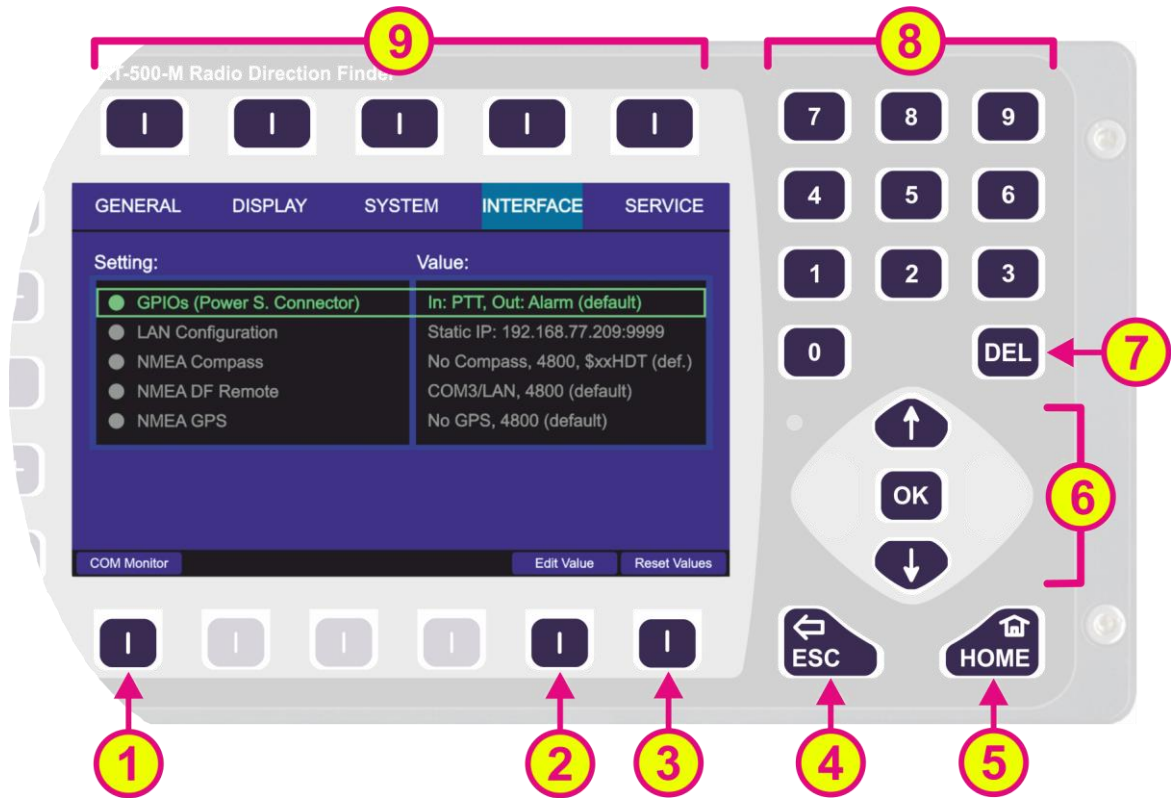
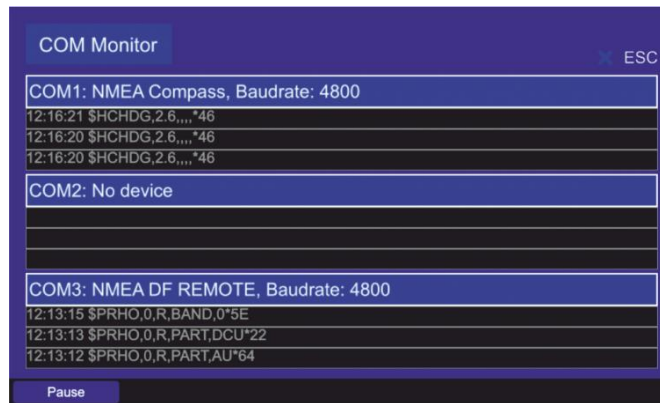

Fig. 139 Setup page. Interface settings
Fig. 140 COM monitoring dialog
- To open the dialog for COM monitoring press the “COM Monitor” hotkey (Fig. 139, position 1). Following dialog opens (s. Fig. 140).
- Press the button “OK” or hotkey “Edit Value”, while the setting “NMEA DF Remote” is marked (s. Fig. 139).